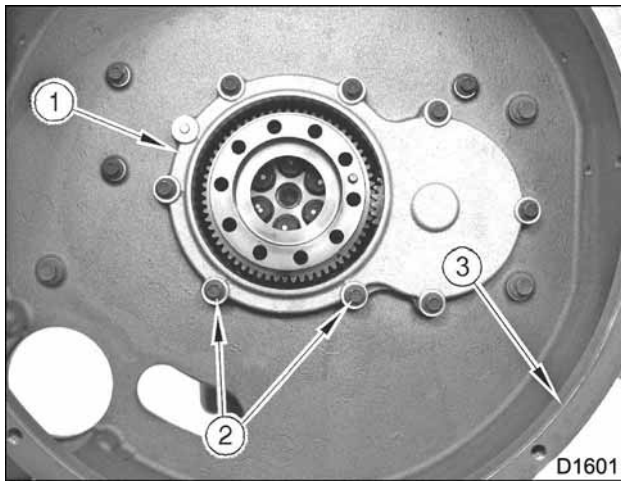

Figure 579 Rear cover and rear oil seal carrier
15. Install two M8 x 70 bolts in lower holes of rear oil seal carrier (Figure 579). Tighten bolts to the standard torque (Standard Torques, page 375).
16. Install six remaining x 285 bolts M8 to secure rear oil seal carrier to rear cover.(Figure 579). Tighten bolts to the standard torque (Standard Torques, page 375).